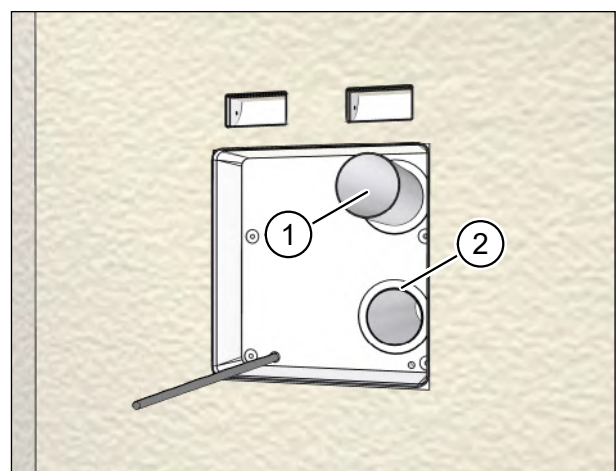

Fig. 35: Cutting ventilation pipes to length
- ▶ Push the two ventilation pipes (item 1 in Fig. 35) into the openings in the installation kit until they end flush with the inside of the installation kit (item 2 in Fig. 35).